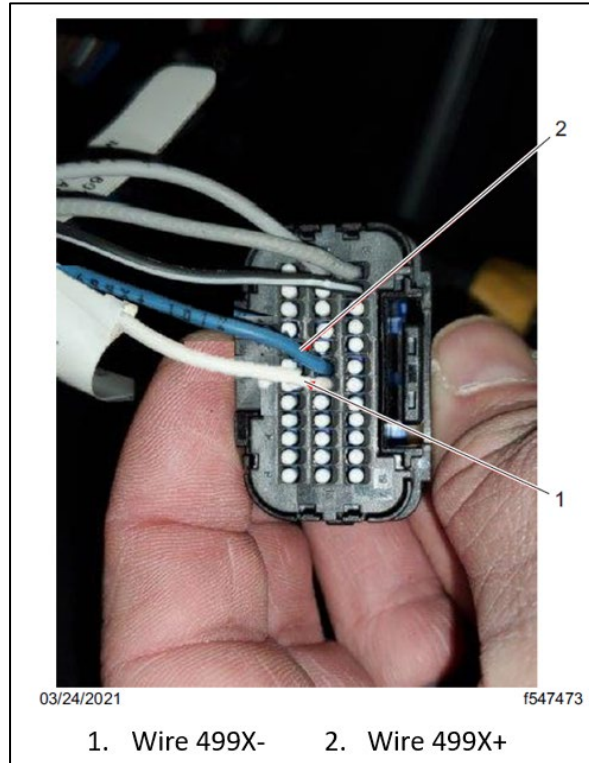
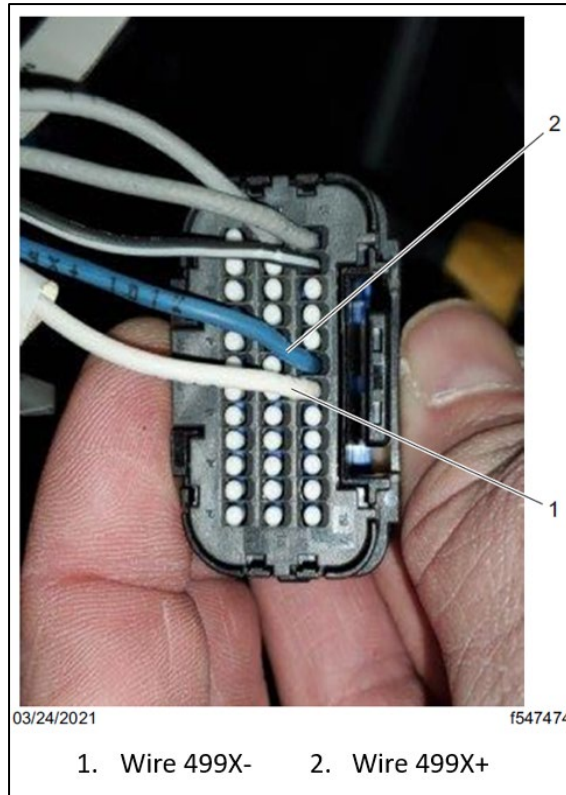

Fig. 6, Incorrect Pinning, ENG_CTRL_D_ECU_CMNS_EDGE_1A Connector
Fig. 7, Correct Pinning, ENG_CTRL_D_ECU_CMNS_EDGE_1A Connector
- 12.1 Pins 6 and 7 should be connected to wires 499X- and 499X+ respectively. See Fig. 6 and See Fig. 7 for incorrect and correct pinning respectively.